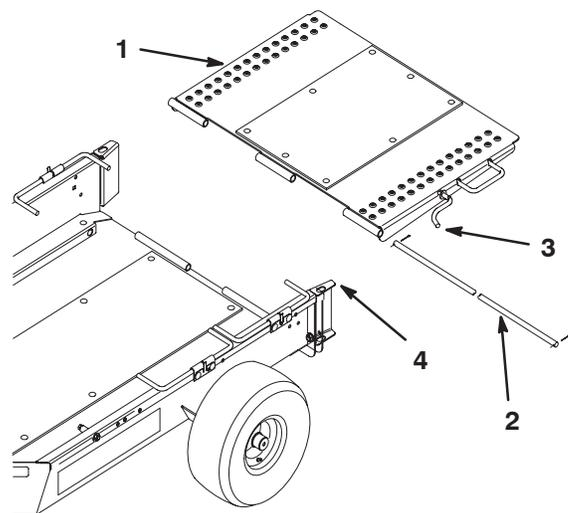

Figure 4
4. Mount trailer ramp to rear of trailer bed with hinge rod and (2) cotter pins (Fig. 4).
5. Pivot trailer ramp upward hook ramp latch into hole in top of wheel guide (Fig. 4).
7. Pivot trailer ramp upward hook ramp latch into hole in top of wheel guide (Fig. 4).